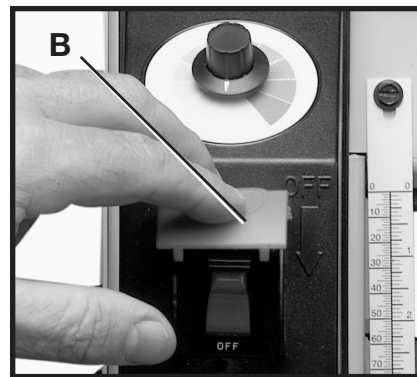

Fig. 13
2. To turn the drum "OFF", push down on switch shield (B) Fig. 13. **NOTE:** This switch only controls the drum. See "**TABLE FEED/SPEED SWITCH**" for feed table switch instructions.